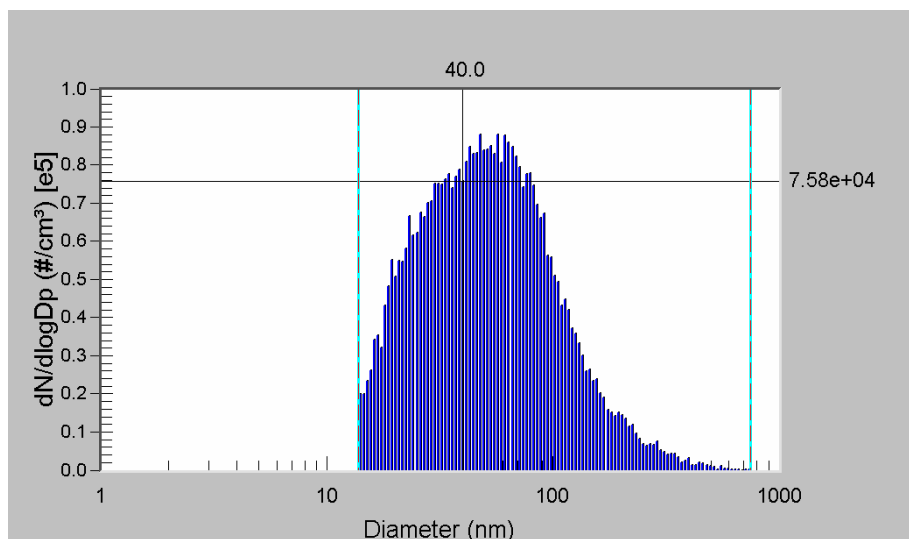

Figure 3-3
2. Press the left mouse button to display the values. Figure 3-3, shows how the data values would be displayed for an SMPS spectrometer (diameter and number concentration).